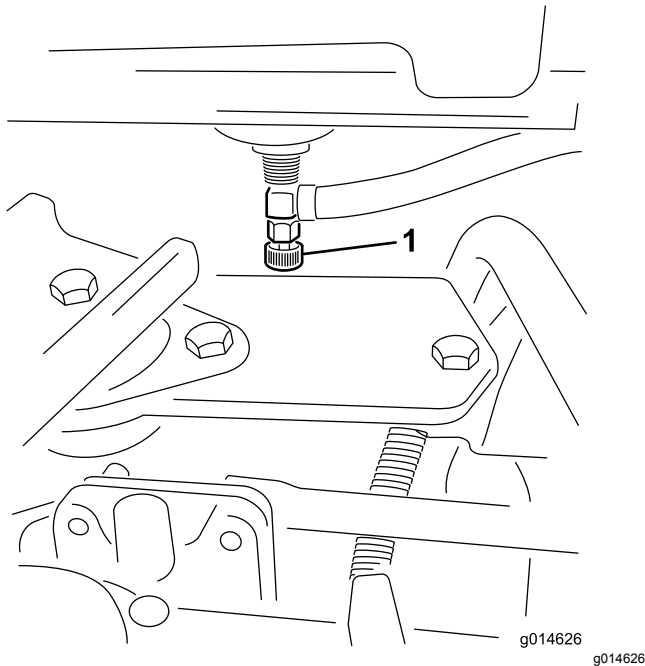

Figure 48
1. Close the fuel-shutoff valve (Figure 48) below the fuel tank.